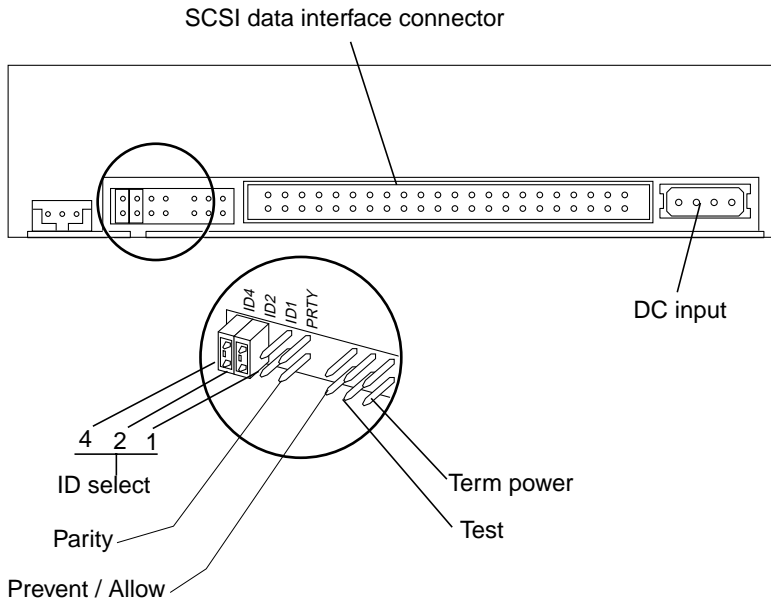

FIGURE 9-7 SunCD 4 Drive Rear View and Jumper Settings
- b. For the SunCD 4 drive: at pins ID4, ID2, and Term power (FIGURE 9-7).